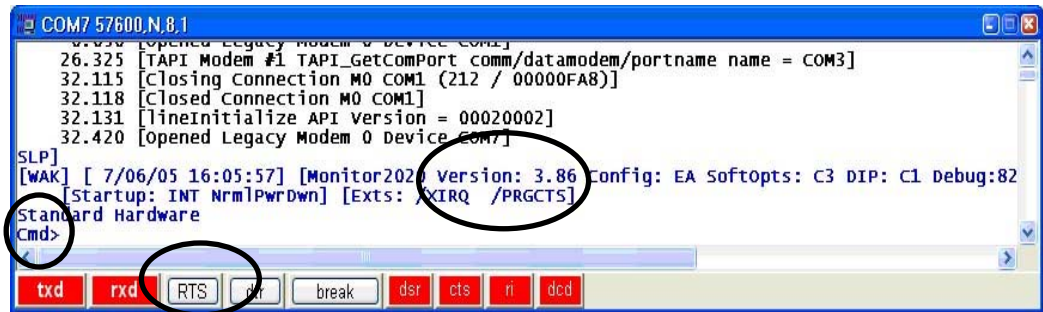

Fig. 8.3 – Monitor Configuration & Version Screen
On the Floating Terminal screen, click on **RTS** button to assert ( **RTS** ) BinComm and establish communications with the Monitor. If communication is established a screen similar to Fig. 8.3 should appear. Verify **Cmd>** prompt appears.
- 8.4.1 In a screen similar to Fig. 8.3, you should see the Monitor version number (i.e. 3.86) and the device configuration.